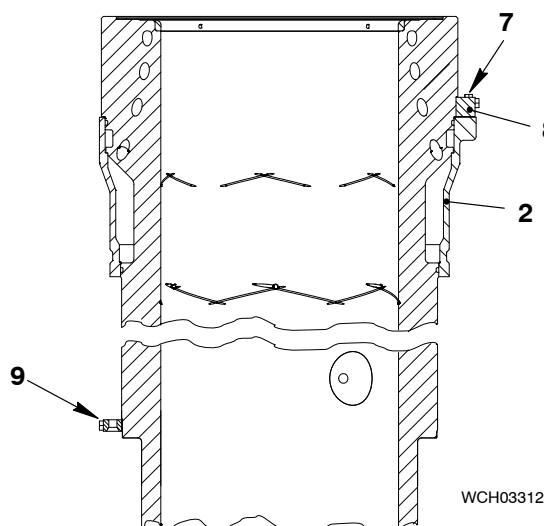

Fig. 8
- 10) Operate the manual ratchets (94016-006, 94016-015) to lift the water guide jacket (2) to the applicable position on the cylinder liner. Make sure that you keep the water guide jacket level.
- 11) Attach the water guide jacket (2, Fig. 8) to the cylinder liner with the three screws (7).
- 12) Attach the holder (9).
- 14) Remove the eye bolts (1).